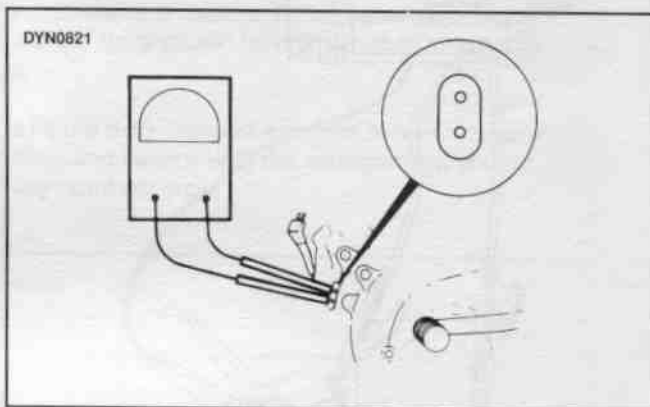

Figure 8-21. Check Alternator Output
1. See Figure 8-21. To test AC output, disconnect the regulator and connect an AC voltmeter across both stator sockets. Run the engine at 2000 rpm. The AC output should be between 32-40 AC volts (16-20 per 1000 rpm).